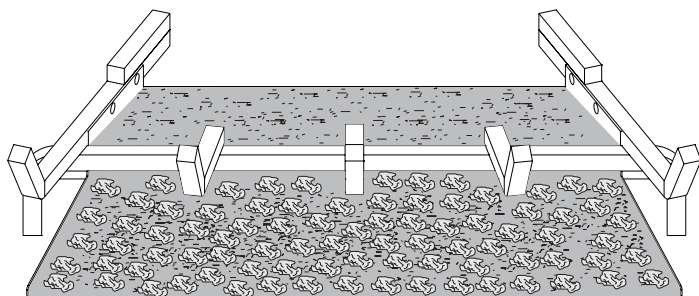

Figure 7
2. Spread the Glowing Embers over the bottom portion of the burner. See Figure 7.